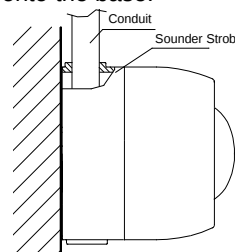

Fig. 4
- ✧ When surface mounted, the sounder strobe should be placed 0.2m from the ceiling for normal space height. When the conduit is embedded, the base should be mounted on the back box. When conduit is surface mounted, the deep base should be adopted. Knock the knockout hole, and connect the conduit with it. The mounting hole spacing and mounting direction of the sounder strobe with a deep base are shown in Fig. 2. Mounting method is shown in Fig. 3a and Fig. 4. The conduit must be embedded when the shallow base is used, as shown in Fig. 3b.